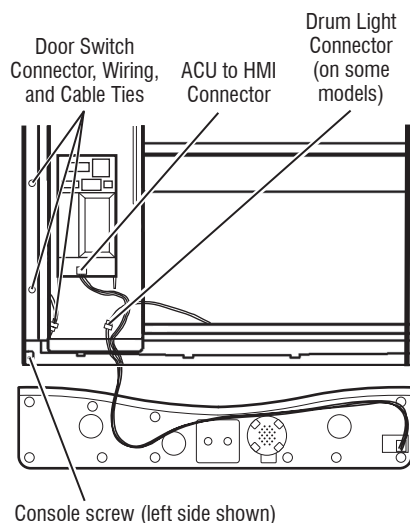

Figure 16 - Remove console
A: Remove Console (Figure 16)
2. Disconnect the drum light harness (on some models) at the inline connector as shown in figure 16.
3. Disconnect the ACU to HMI harness directly from the ACU, as shown in figure 16.
(See Figure 16, page 24).